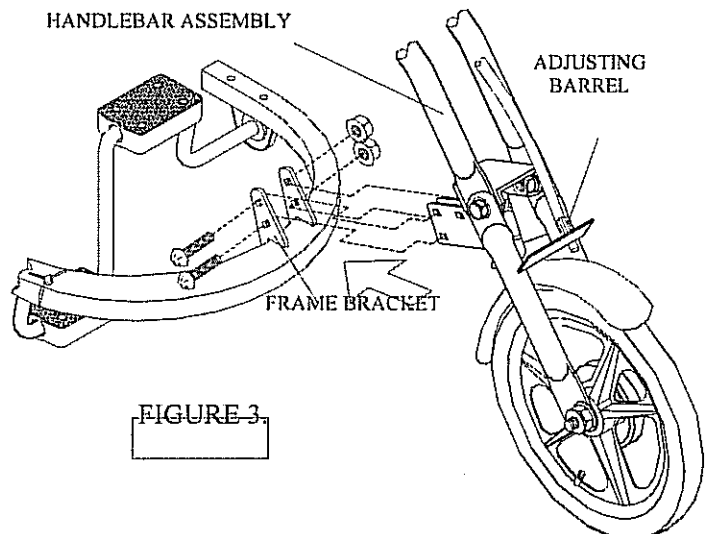

FIGURE 3.
Before riding, roll the Jr. Joyrider back and forth and apply the brake lever. If the stopping action is not quick, tighten brake cable by loosening the nut on the bottom of the adjusting barrel (55) and turning the adjusting barrel clockwise (see figure 3). Once the braking action is firm, tighten the nut and adjusting barrel.